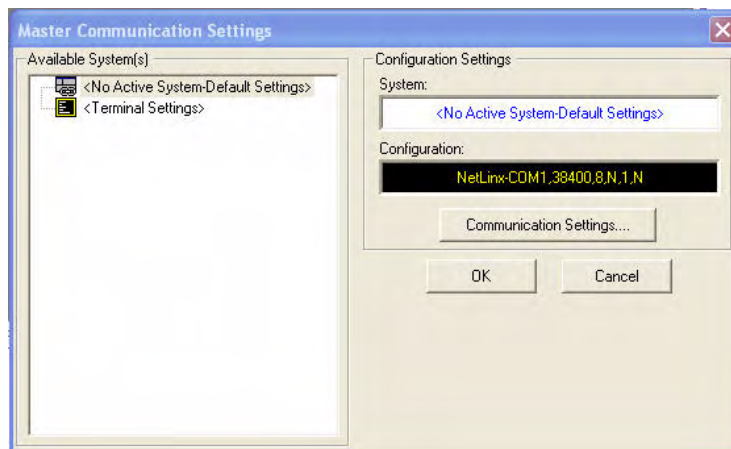

FIG. 69 Master Communications Settings dialog box
9. Launch NetLinX Studio 2.x and select **Settings > Master Communication Settings** from the Main menu to open the *Master Communication Settings* dialog (FIG. 69).